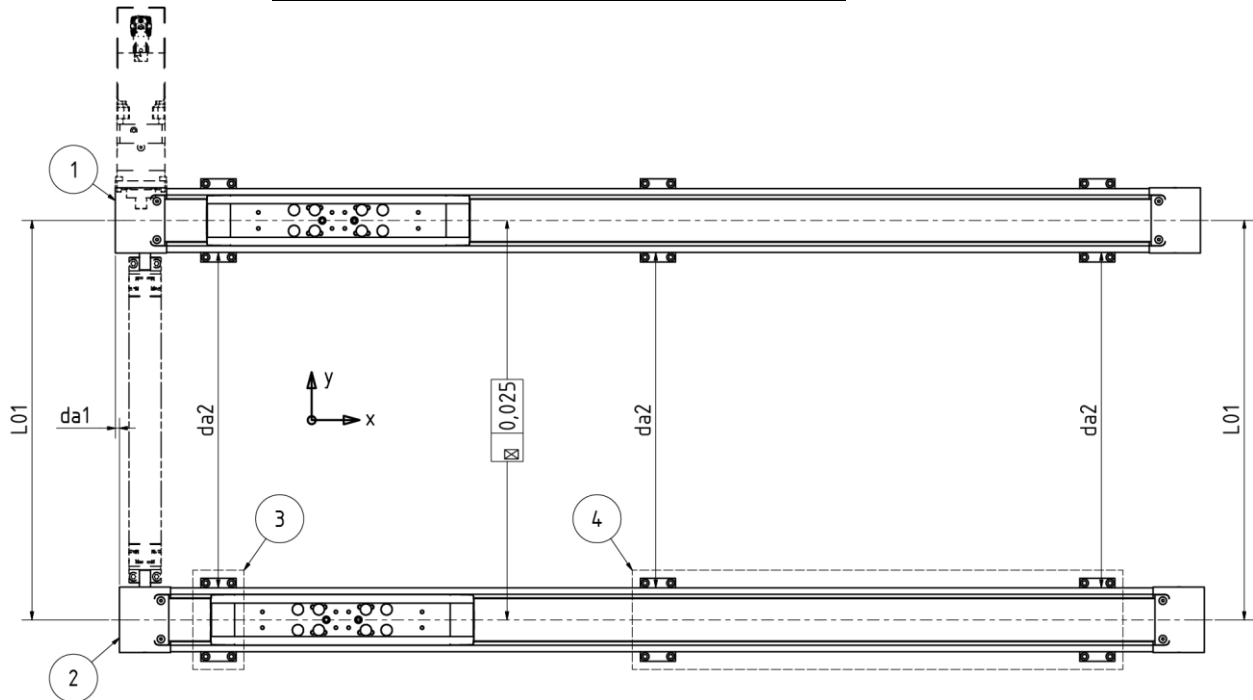

Figure 2: alignment double axis
- ◆ Installation of the first (driving) Linear actuator (Figure 2, Pos. 1) as described in chapter Installation of a single axis (see page 21)
- ◆ Place the second (driven) linear actuator (Figure 2, Pos. 2) to the leveled or treated connection surfaces. Rough alignment of the axis with the system (alignment with the mounting holes of the selected connection option). If the shaft trunions for mounting the connection shaft are already pre-assembled, make sure that the shaft trunions are oriented towards each other.
- ◆ Check center distance of the double axis (Figure 2 und Table 2, measurement L01) and correct if necessary.
- ◆ Align the linear axes axially to each other. Use the front faces of the drive stations. Maximum permissible offset of the drive stations (Figure 2, measurement da1): $(L01-158) \cdot \tan 0.06$.
- ◆ Tighten the screws of the first fastening point of the second linear actuator (Figure 2, Pos. 3) with the respective tightening torque (please refer to Table 1).
- ◆ For the parallel alignment of the double axes, set the same distances one after the other between the individual fixing points of the linear actuators (Figure 2, measurement da2) and tighten the screws of the fastening points of the second linear actuator (Figure 2, Pos. 4) with the respective tightening torque (please refer to Figure 2). Observe the maximum permissible axis parallelism ≤ 0.025 mm. For this, use stops/stop edges, distance gauges, a dial gauge or other suitable measuring equipment.